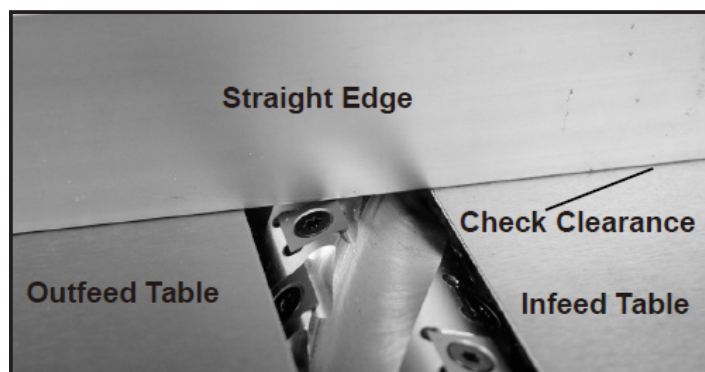

FIG.7.2.4
- Lie the straight edge across BOTH tables. FIG. 7.2.4.
Raise or lower the table adjustment handle (not shown) and check the clearance between the straight edge and infeed table as shown in FIG. 7.2.4.